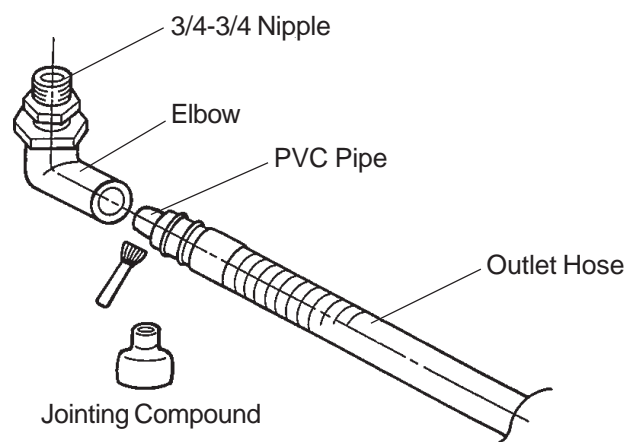

Fig. 8
- 5) Use a pipe jointing compound (for PVC) to joint the outlet hose with PVC pipe (accessory) to the elbow as indicated (Fig. 8). The pipe can be cut to length as necessary to suit position of main drain.